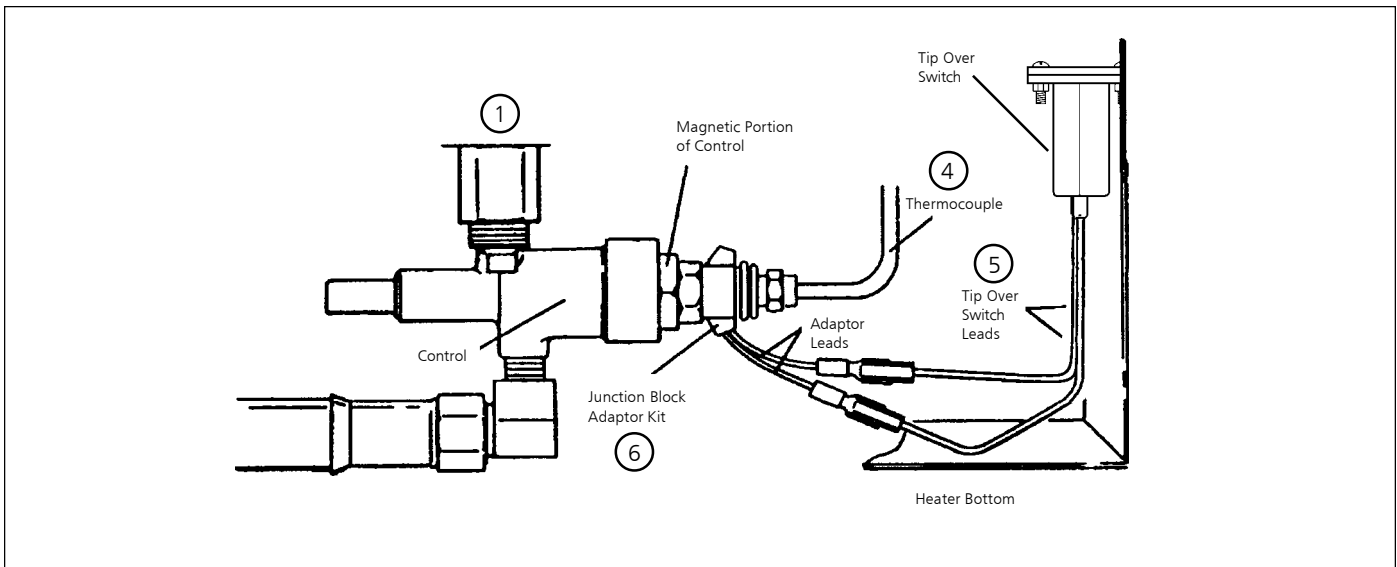

Figure 4
- Loose wires on tipover switch. (see Fig. 4)